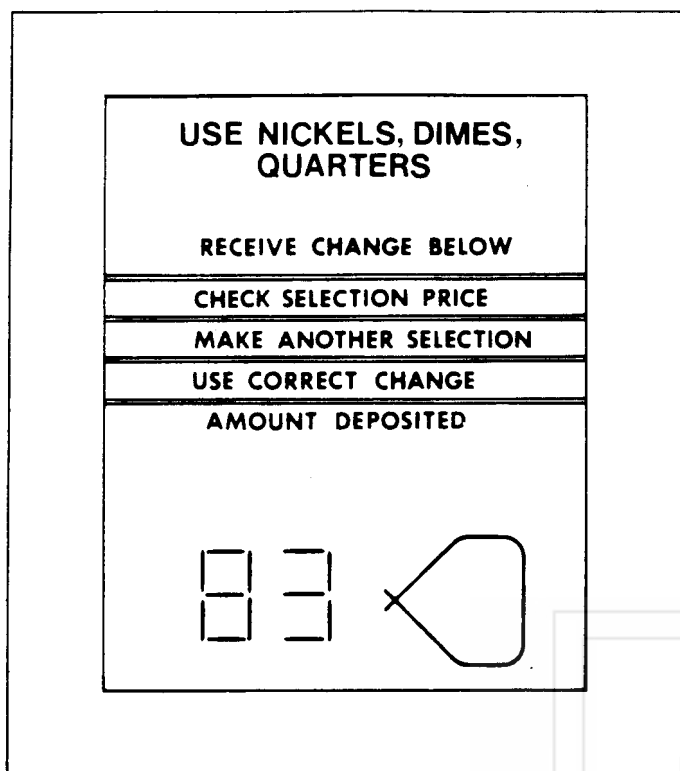

Figure 21. SHOWING SELECTION B3 NOT OPERATING
- B. Press button 14 on the selection panel. If any of the motors are not functioning (jammed, bad switch, bad harness, etc.) the first non-functioning motor in the series will be displayed on the selection panel display (Figure 21).